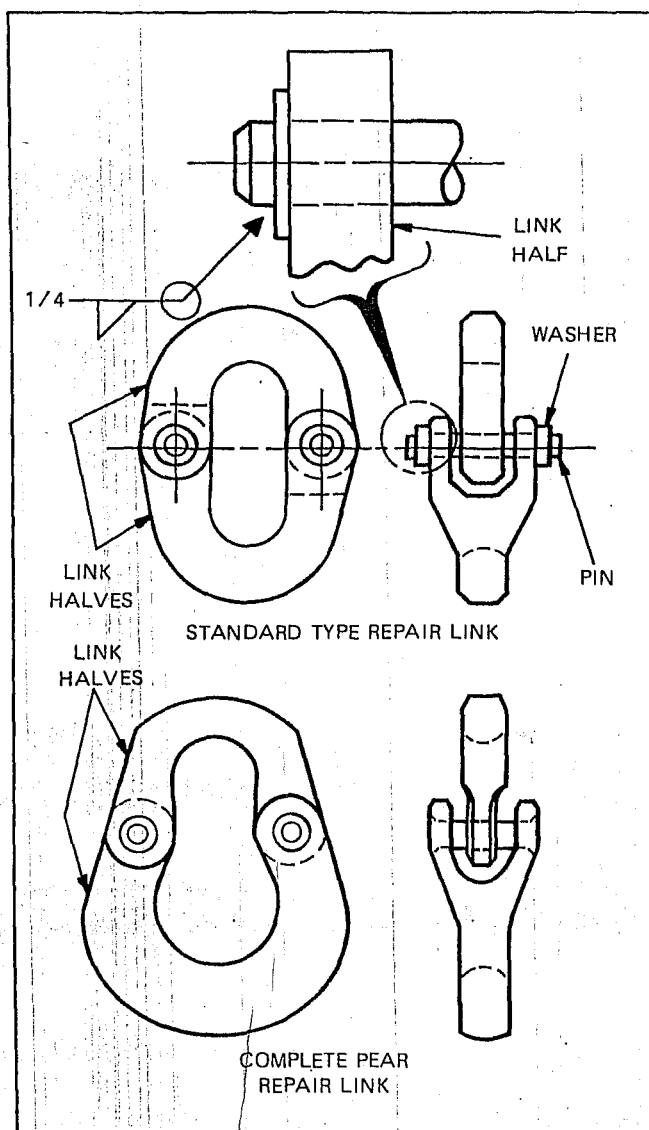

Figure 3.3-60
1. Align the link halves as shown in Figure 3.3-60 so the holes formed in the halves register with one another.